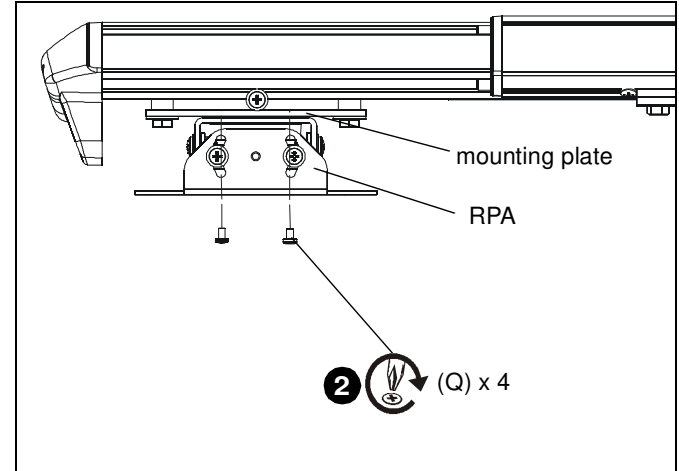

Figure 17
2. Install four 1/4-20 x 3/8" Phillips pan machine screws (Q) through RPA holes and into projector mounting plate. (See Figure 17)